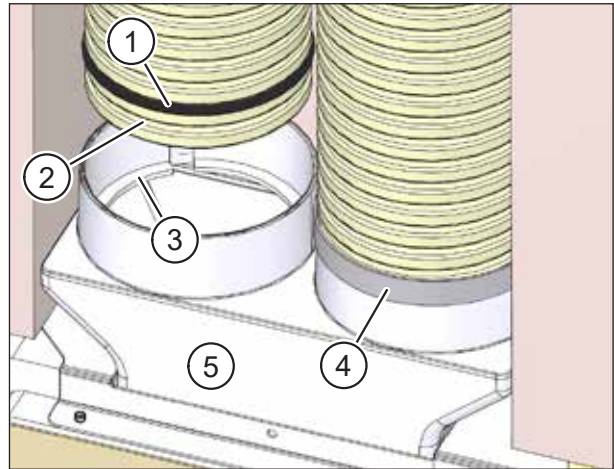

Fig. 29: Fixing a flexible pipe connection with sealing tape
- ▶ Insert the sealing rings (item 1 in Fig. 29) into the second groove on the flexible pipe. These are available as accessories M-WRG-FR-DR75 (part no. 5056-41/75) or M-WRG-FR-DR63 (part no. 5056-41/63) for the corresponding diameters.
- ▶ Insert the flexible pipes into the openings in the flexible pipe connection. Make sure that the first groove on the flexible pipe (item 2 in Fig. 29) engages with the locking ring (item 3 in Fig. 29) on the flexible pipe connection.
- ▶ Recommendation: Seal the join with a layer of sealing tape 30 mm wide (item 4 in Fig. 29).
- ▶ Insert the flexible pipe connection (item 5 in Fig. 29) into the opening in the wall box.